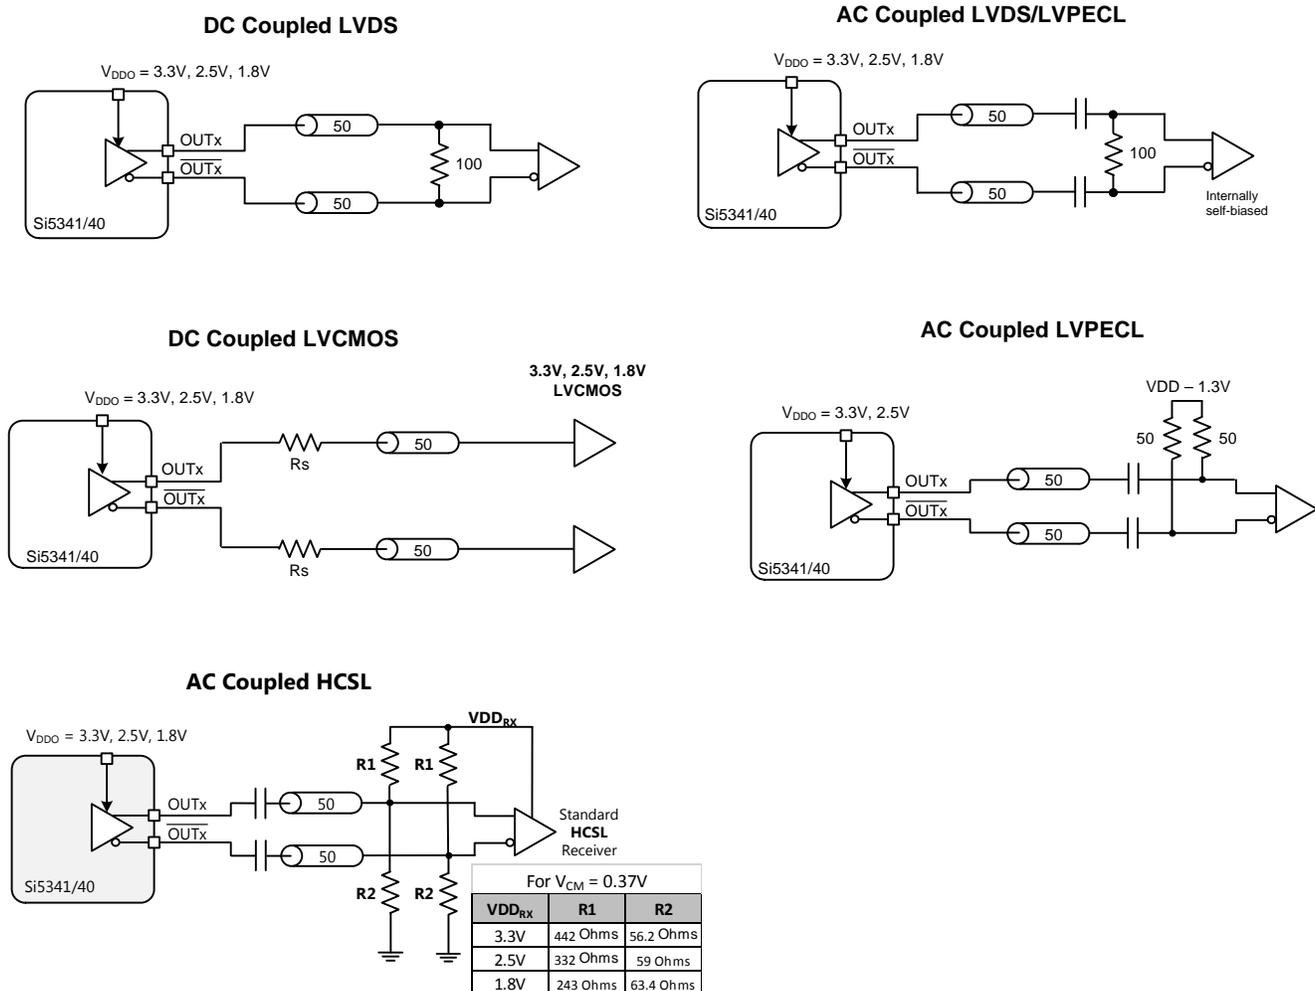

Figure 9. Supported Differential Output Terminations
The differential output drivers support both ac-coupled and dc-coupled terminations as shown in Figure 9.
- Differential High Swing Mode:** When an output driver is configured in high swing mode, its output swing is configurable as one of 7 settings ranging from 400 mV_{pp_se} to 1600 mV_{pp_se} in increments of 200 mV. The output driver is in high impedance mode and supports standard 50 Ω PCB traces. Any of the terminations shown in Figure 9 are supported. The use of High Swing mode will result in larger pk-pk output swings that draw less power. The trade off will be slower rise and fall times.